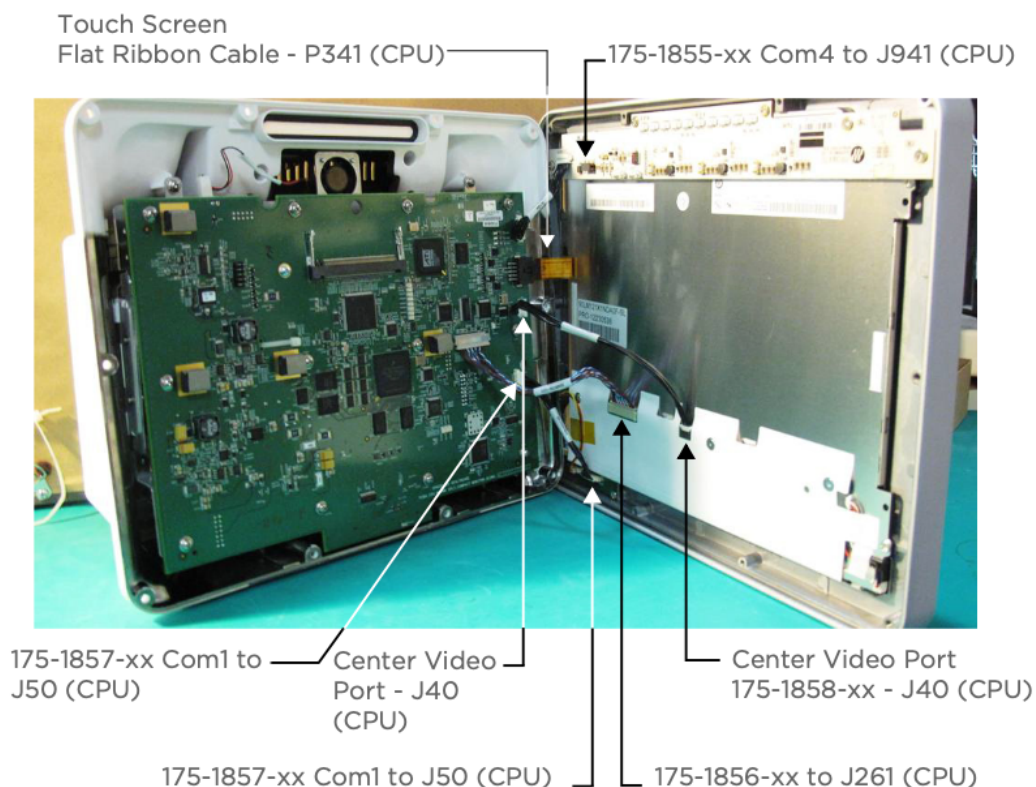

Figure 4-4 Bezel Assembly and Rear Enclosure
- 4 Place the monitor on its feet and separate the bezel assembly from the rear enclosure, as shown in Figure 4-4 on page 4-10.
- 5 Start from the bottom and disconnect the three black wire bundles from the monitor side. Refer to Figure 4-4.
- 7 Disconnect the remaining black ribbon cable from the monitor side. Refer to Figure 4-4.
- 1 Position the new bezel assembly as shown in Figure 4-4.
- 15** Place the monitor upright, as shown in Figure 4-4 on page 4-10.
- 16** Position the bezel assembly as shown in Figure 4-4 on page 4-10.